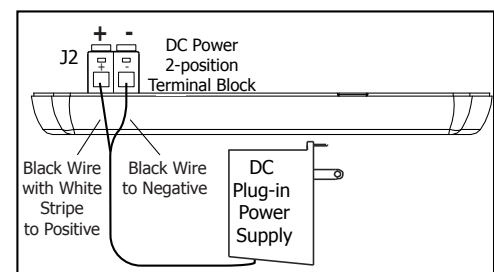

Figure 3: 1117 Side View
3. Wire the power supply to the J2 terminal block. Connect the Black wire with the White stripe to the positive terminal and the Black wire to the negative terminal. See Figure 3.